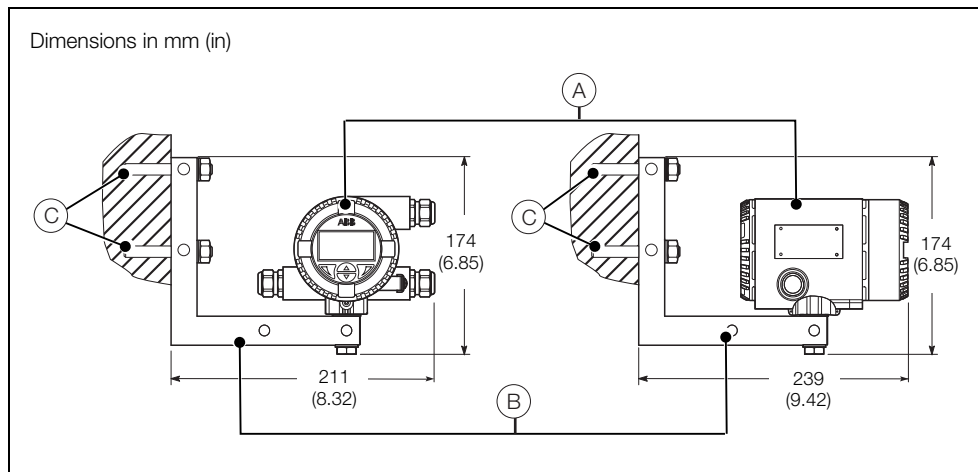

Fig. 3.4 Wall Installation
Referring to Fig. 3.4:
2. Bolt the transmitter (A) to the wall-mounting bracket (B) securely in the required position.
Note. The wall-mounting bracket (B) supports variable installation positions. 2 examples of the different options are shown in Fig. 3.4. The mounting bolt enables adjustable positioning (0° to 360°) of the transmitter housing.
3. Attach the wall-mounting bracket (B) to the wall securely using 2 x 10 mm bolts (C).